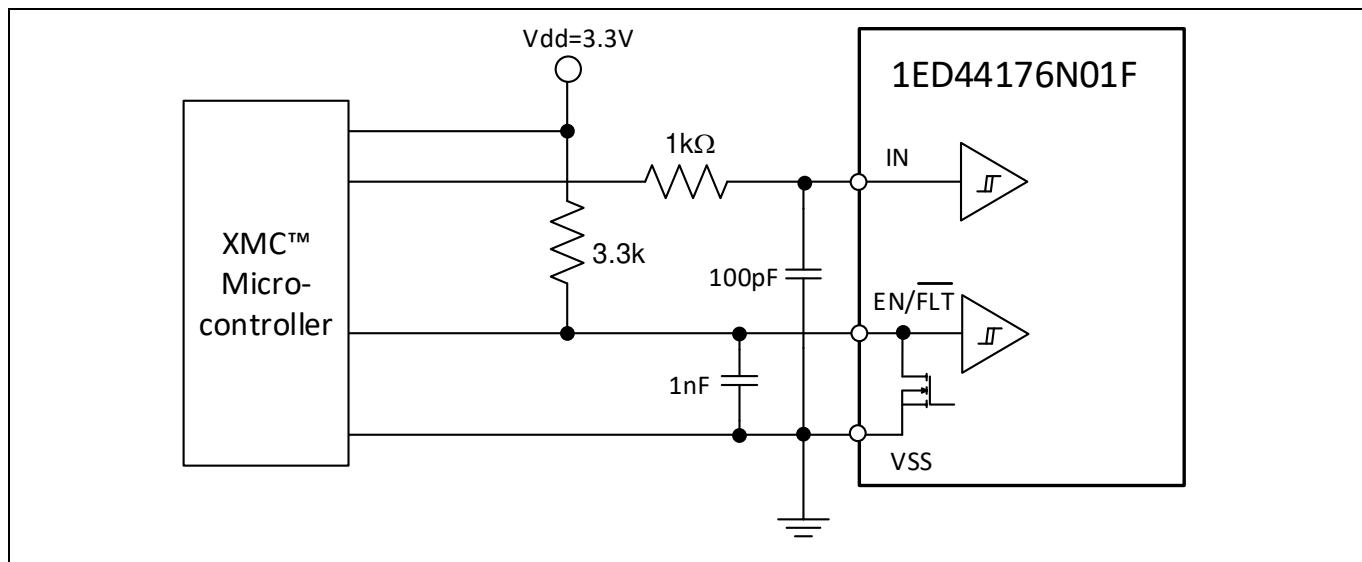
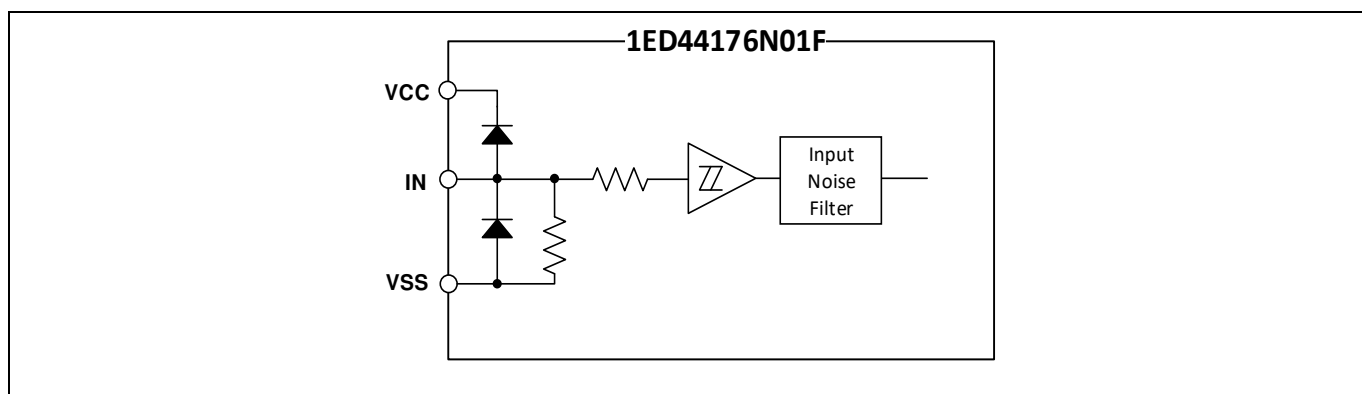

Figure 3 Recommended micro-controller I/O interface circuit
Figure 4 Simplified input structure diagram of 1ED44176N01F
- To prevent signal oscillations, an RC coupling is recommended as illustrated in Figure 3.
Figure 3 shows the I/O interface circuit between a micro-controller ( $\mu\text{C}$ ) or digital signal processing (DSP) and the 1ED44176N01F. The 1ED44176N01F input logic is active-high. The  $\text{EN}/\overline{\text{FLT}}$  output is an open-drain configuration. This signal should be pulled up to high by an external logic power supply with a pull-up resistor. A 3.3k pull-up resistor is recommended if the external logic power supply is 3.3 V.
As shown in Figure 4, the 1ED44176N01F input signal section integrates a pull-down resistor. Therefore, when using an external filtering resistor between the micro-controller output and 1ED44176N01F input, pay attention to the signal voltage drop at the 1ED44176N01F input terminal. It should fulfill the logic "1" input voltage requirement. For instance, R = 1 k $\Omega$  and C = 100 pF are recommended for the parts shown in Figure 3.